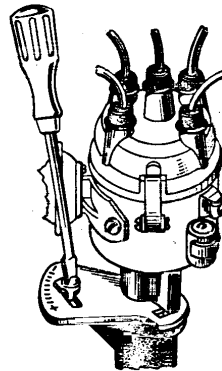

Fig. 26. Adjusting Ignition
3. Check the ignition timing and adjust it with the octane selector (Fig. 26) when the engine is warmed up.